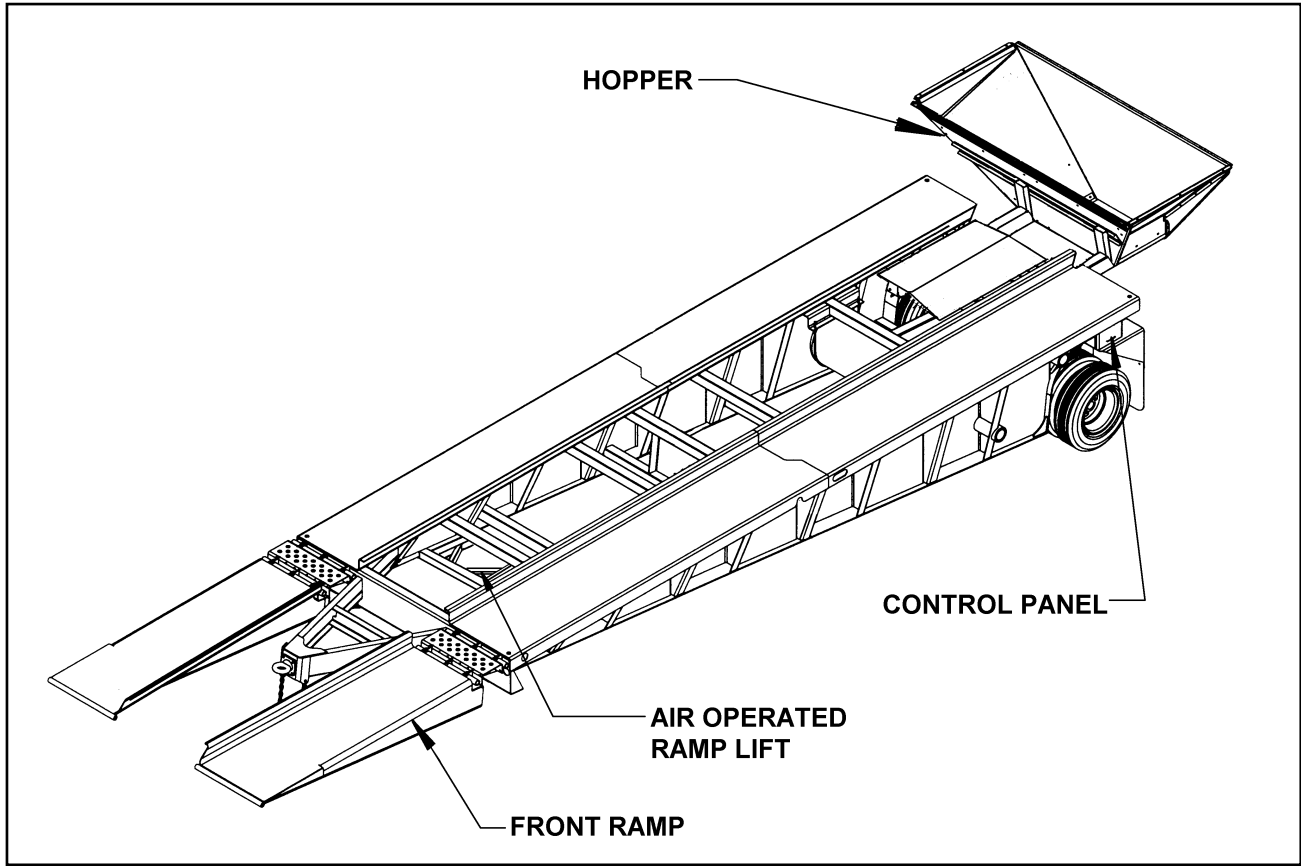

Figure 3-2 Model 124 Trailer Terminology
This section supplies information for operation of the trailer. It describes and locates controls, and gives general operation procedures. Read all instructions, warnings, cautions, and danger notes before attempting to operate the trailer. Operators must have proper training before operating the trailer. See Figure 3-2 for trailer terminology.
3-2.2 Check the trailer hitch height. The hitch should be the same height to slightly higher, than the hitch of the towing vehicle. Raise or lower the front of trailer by using the air operated jack. The jack may be raised or lowered using the valve marked "FRONT" on the control panel until the proper hitch height has been obtained (See Figure 3-2).
- 3-3.4 Raise the air operated jack and lock the hitch in place (See Figure 3-2).
3-9.5 Unlock hitch and raise trailer hitch by lowering the jack until the hitch is in a position to be disconnected (**See Figure 3-2**).
3-11.1 Ramps are double hinged to allow them to flip 180° and are also spring loaded in both directions to allow them to be flipped easier (See Figure 3-2).